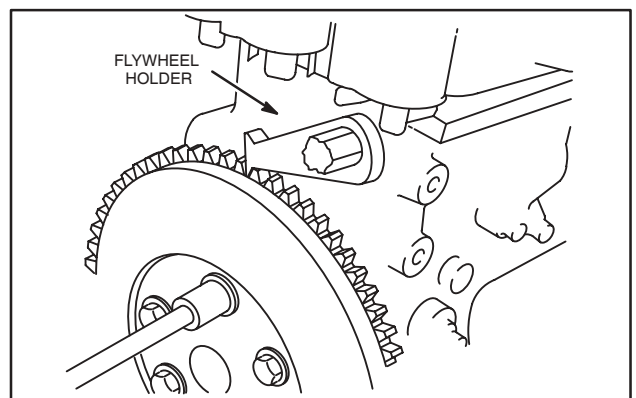

Fig. 2 – Removing Flywheel
- a. Remove flywheel screws and flywheel, Fig. 2.Inspect flywheel for cracks or damage. Inspect flywheel ring gear for worn, chipped or cracked teeth. If ring gear is worn or damaged the flywheel must be replaced.